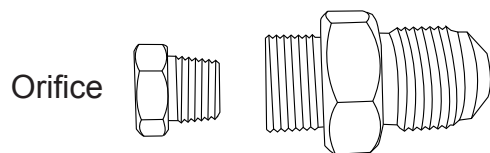

Fig. 4 Natural gas orifice threads into the brass fitting.
Main Burner Orifice - All fire bowls **MUST** have a main burner orifice installed on the inlet side of the burner. An orifice limits the amount of gas flow to the burner to ensure the flame is a safe and reasonable height to not pose a risk to people or property. The drawing below shows a Natural Gas (NG) orifice. LP gas needs more ventilation and requires the removal of the stainless sleeve on the venturi tube to provide a cleaner flame. See Fig. 4 and page 14 for more detail.